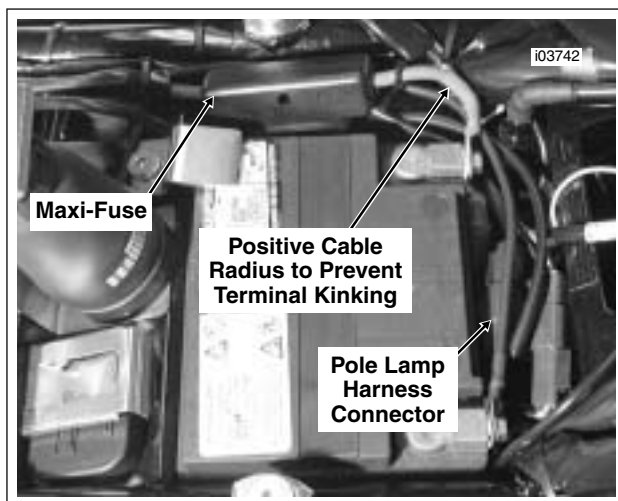

Figure 8-43. Install Tour-Pak Battery Cables to Motorcycle
27. See Figure 8-43. Route the positive battery cable with Maxi-fuse as shown and loosely install positive battery terminal over existing terminal to battery positive post. Tuck the Maxi-Fuse along with the pole lamp harness down into the space between the battery and the left upper frame tube as shown. Tighten terminal to 30 in-lbs (3.4 Nm).